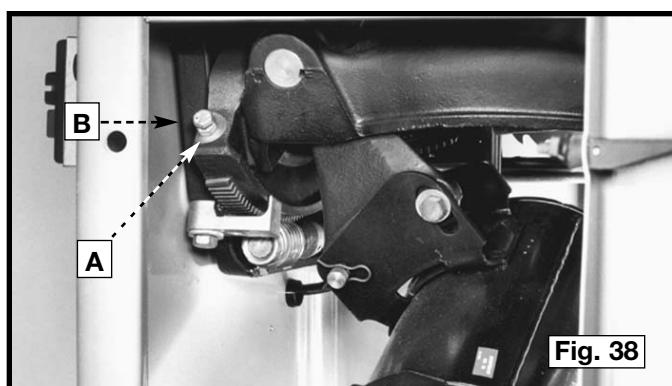

Fig. 38
4. If the blade is not at 90° to the table, turn the blade tilting handwheel counter-clockwise. Loosen the locknut (A) Fig. 38, and tighten or loosen adjusting screw (B) until head of screw (B) contacts casting on front trunnion when the blade is at 90° degrees to the table. Then tighten locknut (A).